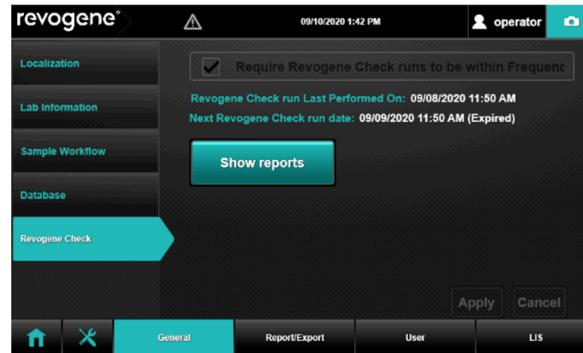

Figure 3. Revogene Check Settings
5. If the <Show Revogene Check Menu> is chosen, tap the <Show reports> button (**Figure 3**) to consult the pdf report file.